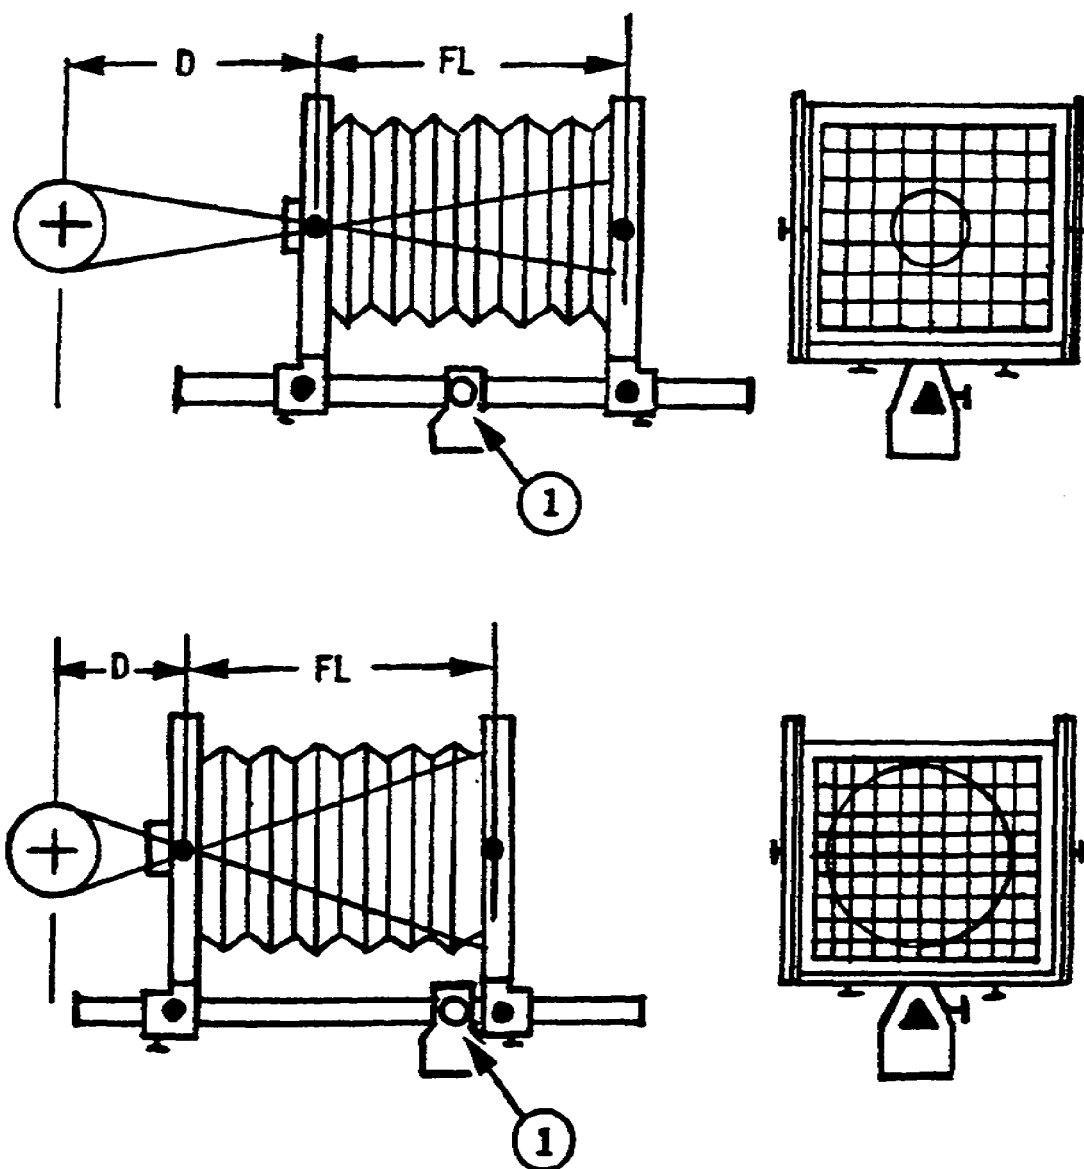

Figure 1-36. Changing Image Size.
(2) After approximate focus has been obtained, slight changes in the image size on the ground glass may be obtained by moving the monorail bed with respect to the panhead, as follows:
- (a) Loosen the camera mount lock 1 (fig 1-36) and turn the camera mount adjust knob.
**NOTE:** Since the front and rear carriages are secured to the monorail bed, the distance between the front and rear carriage is not changed by the rotating camera mount adjust knob. In fig 1-36,  $D$  is the subject to camera distance and  $FL$  is the camera focal length.